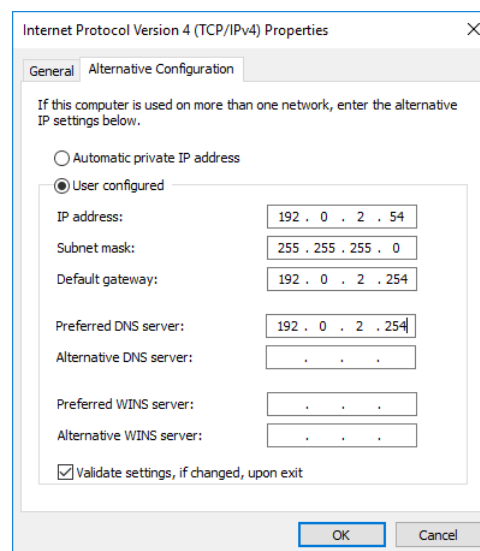

Figure 1.
6. Select User configured and enter e.g. the 192.0.2.54 IP address and 255.255.255.0 as Subnet mask as shown on *Figure 1*.